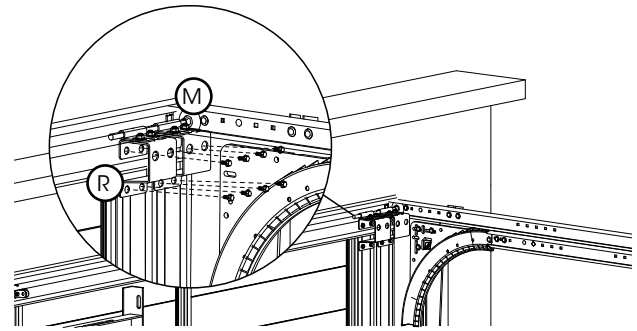

Fig: 3.5.1
- Insert the wheel axle (M) into the top hanger and slide down the top horizontal track to the stopper plate.
- Align wheel axle with the position of the below panel wheel axle (adjusting hanger if needed as per Fig 3.3.2). The wheel should rest lightly against the top of the horizontal track to push the door into the fully closed position. Secure top hanger to panel with nuts and bolts. Fig 3.5.1.